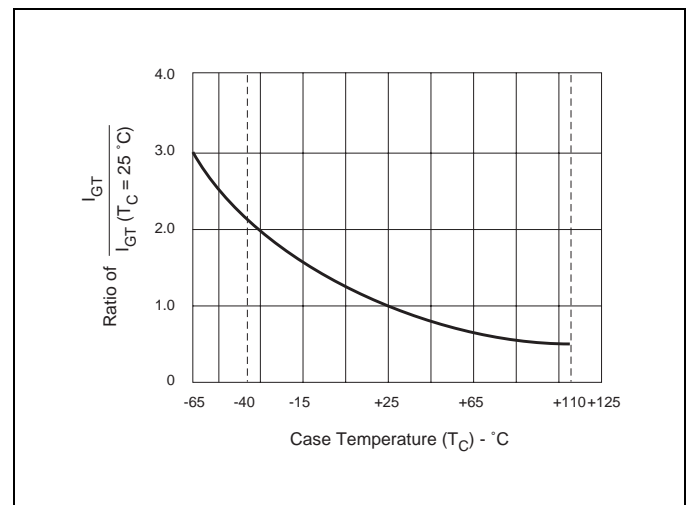

Figure E1.7 Normalized DC Gate Trigger Current for All Quadrants versus Case Temperature
- (6) See Figure E1.7 for  $I_{GT}$  versus  $T_C$ .